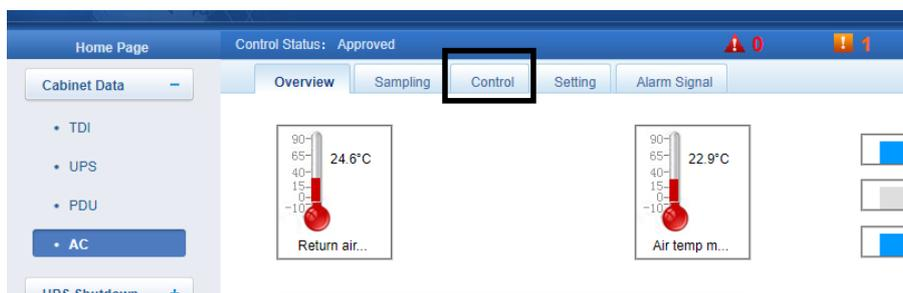

Figure 7-5 Open Control page
b) Open Control page(Figure 7-5)